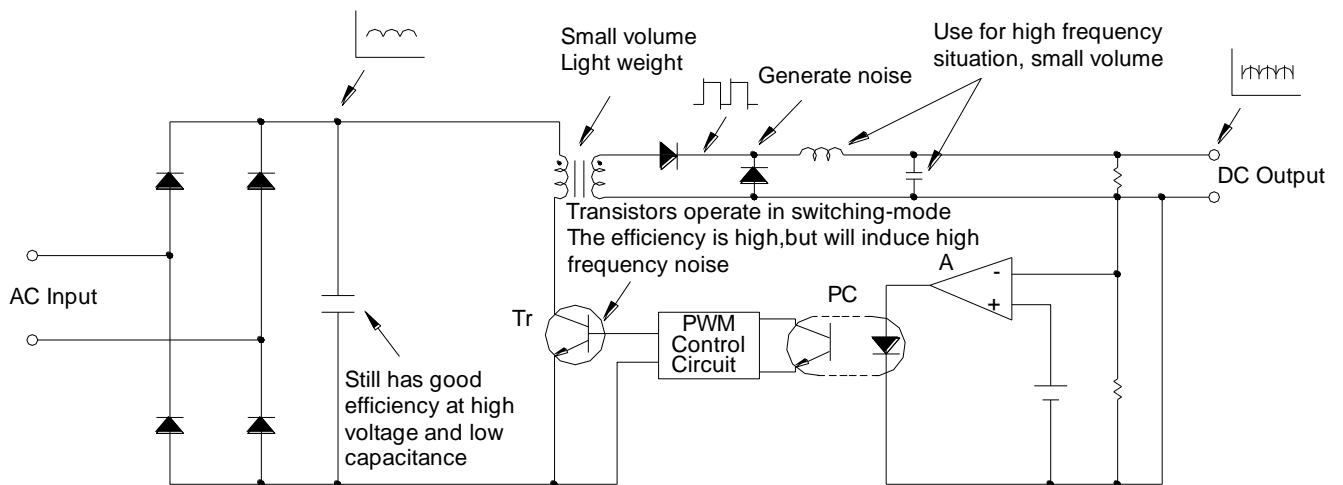

Figure 1.3: The principle diagram of a typical switching power supply
(1) Switching power supplies mainly improve the weaknesses such as the huge volume, the heavy weight, and the low efficiency in linear power supplies. The topology of a switching power supply, as shown in figure 1.3, rectifies and filters the voltage directly from AC mains (off-line) without using a low-frequency transformer. The capacitance of the bulk capacitor can be quite small due to the high rectified voltage.